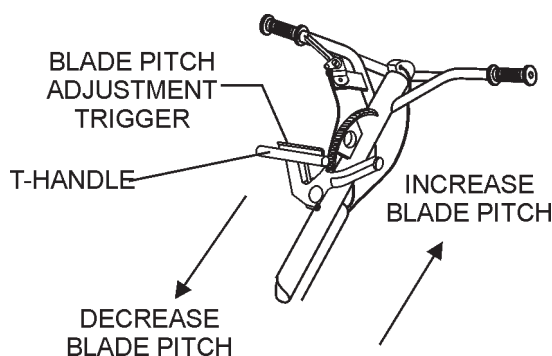

Figure 27. Quick Pitch™ T-Handle
1. To pitch the blades upwards using the "**Quick Pitch™**" **T-handle**, (Figure 27) simply squeeze the trigger lock and pull the **T-handle** towards the operator. Pushing the **T-handle** towards the engine will cause the blades